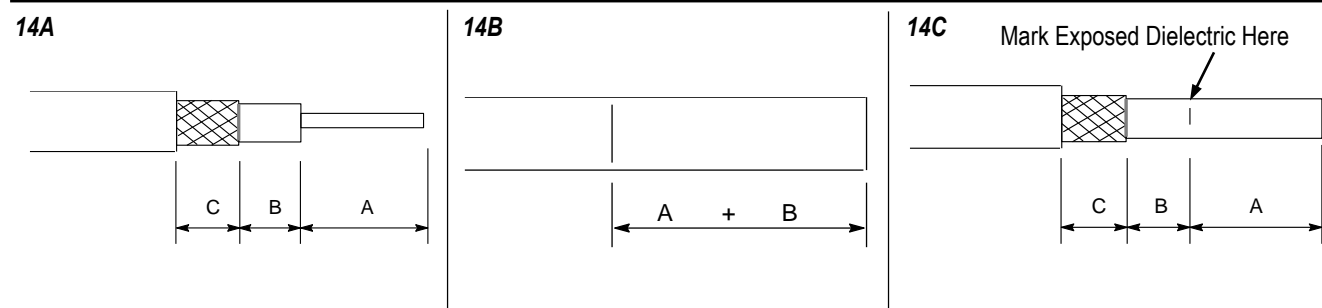

Figure 14
- Combined Figures 14, 15, and 16 and renumbered